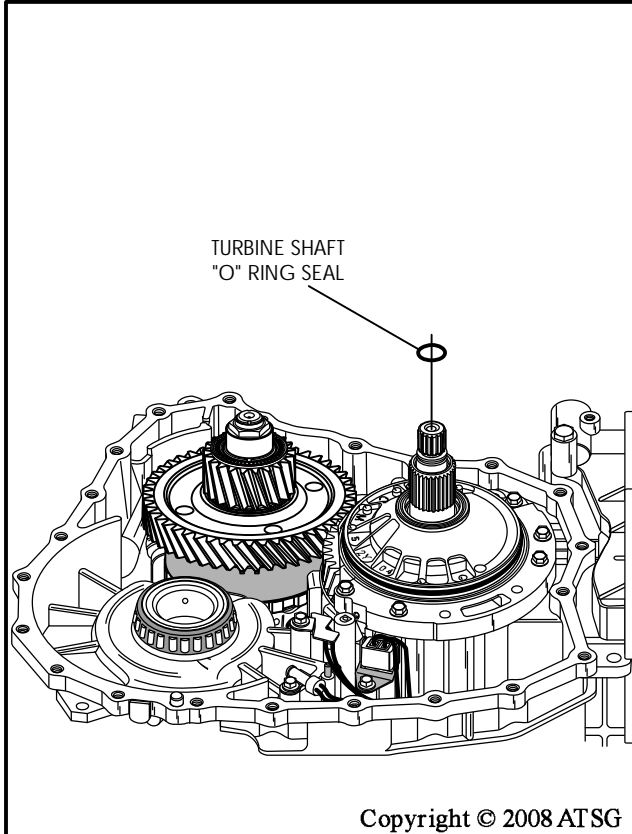

Figure 224
31. Install new "O" ring seal on the turbine shaft, as shown in Figure 224.